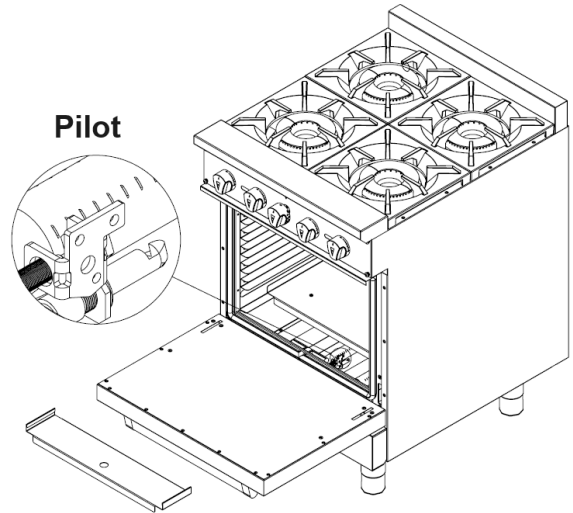

Fig. 8
1. Remove the interior floor of the oven to access the pilot (Fig. 8).